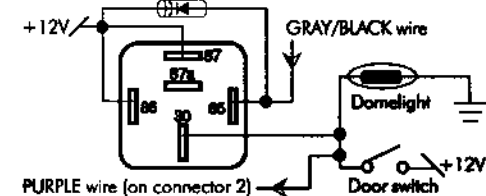

Fig. 6 — 2nd channel output
8. Connector (6-pin connector) **BLACK/WHITE WIRE** (2nd ch. output) Fig. 6